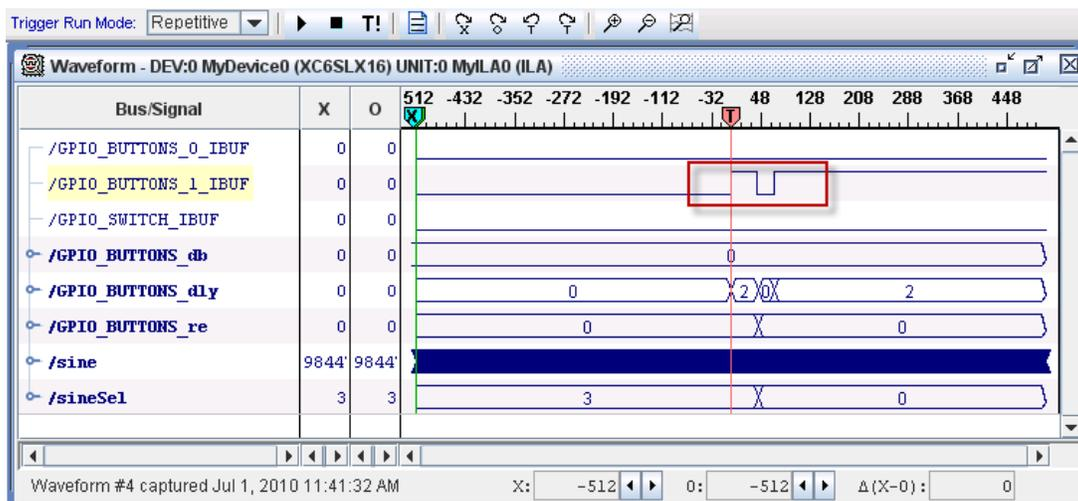

Figure 17: GPIO Buttons\_1\_IBUF Signal Glitch
7. On the board, press the *Sine Wave Sequencer* button until you see multiple transitions on the GPIO\_BUTTONS\_1\_IBUF signal (this could take 20 or more tries). This is a visualization of the glitch that occurs on the input. An example of the glitch is shown in Figure 17.